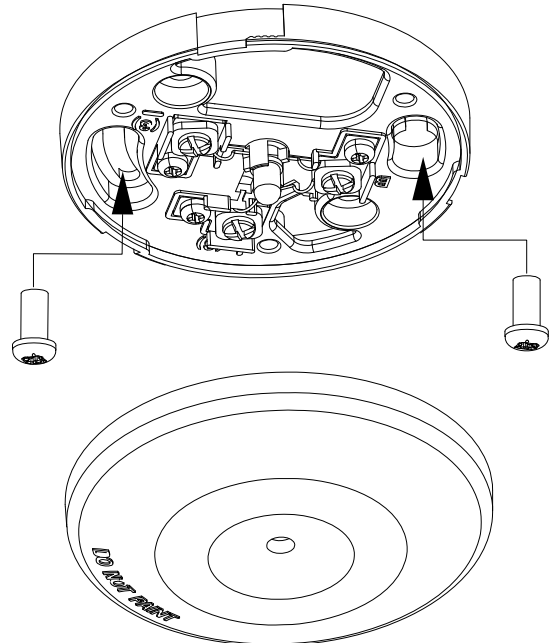

Fig. 2: 681 installation
2. Clip the body to the base (see Fig. 2).